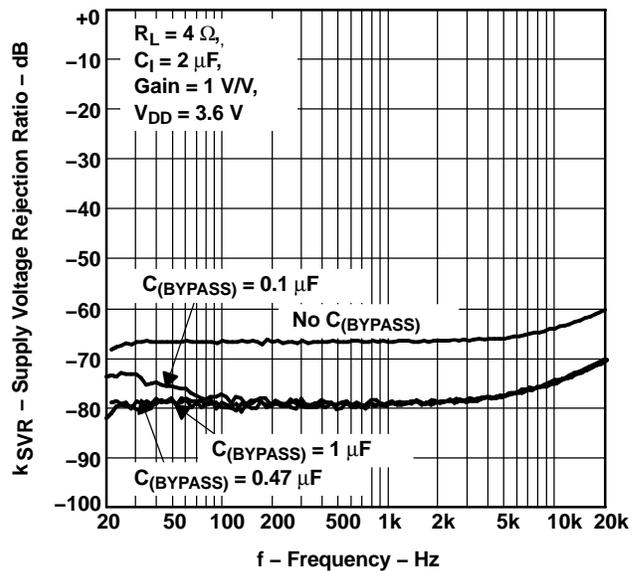

Figure 18.
- **Mid-supply bypass capacitor,  $C_{\text{(BYPASS)}}$ , not required:** The fully differential amplifier does not require a bypass capacitor. Any shift in the mid-supply voltage affects both positive and negative channels equally, thus canceling at the differential output. Removing the bypass capacitor slightly worsens power supply rejection ratio ( $k_{\text{SVR}}$ ), but a slight decrease of  $k_{\text{SVR}}$  may be acceptable when an additional component can be eliminated (see Figure 18).